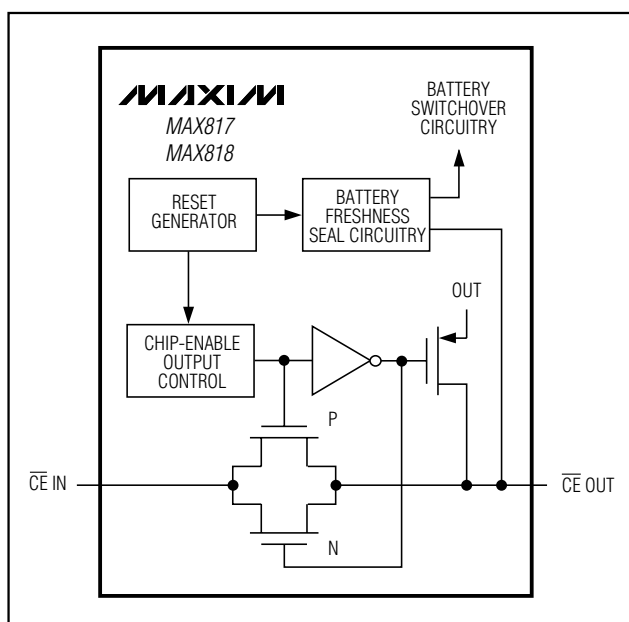

Figure 5. Chip-Enable Transmission Gate
Internal gating of the chip-enable (CE) signal prevents erroneous data from corrupting CMOS RAM in the event of an undervoltage condition. The MAX818 uses a series transmission gate from $\overline{CE IN}$ to $\overline{CE OUT}$ (Figure 5). During normal operation (reset not asserted), the CE transmission gate is enabled and passes all CE transitions. When reset is asserted, this path becomes disabled, preventing erroneous data from corrupting the CMOS RAM. The short CE propagation delay from $\overline{CE IN}$ to $\overline{CE OUT}$ enables the MAX818 to be used with most μPs . If $\overline{CE IN}$ is low when reset asserts, $\overline{CE OUT}$ remains low for typically 15 μs to permit the current write cycle to complete.
When the CE transmission gate is enabled, the impedance of $\overline{\text{CE}}$ OUT is equivalent to a 40Ω resistor in series with the source driving $\overline{\text{CE}}$ IN. In the disabled mode, the transmission gate is off and an active pull-up connects CE OUT to OUT (Figure 5). This pull-up turns off when the transmission gate is enabled.